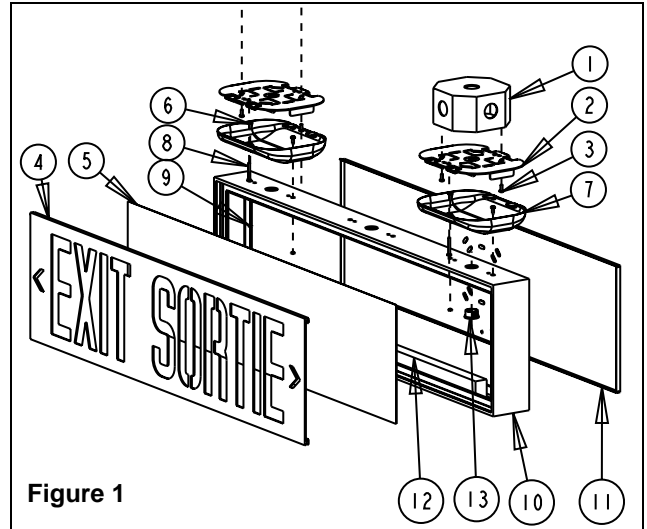

Figure 1
- e. Fasten the canopies to the exit using #8-32 short screws and keps nuts provided (see fig. 1).